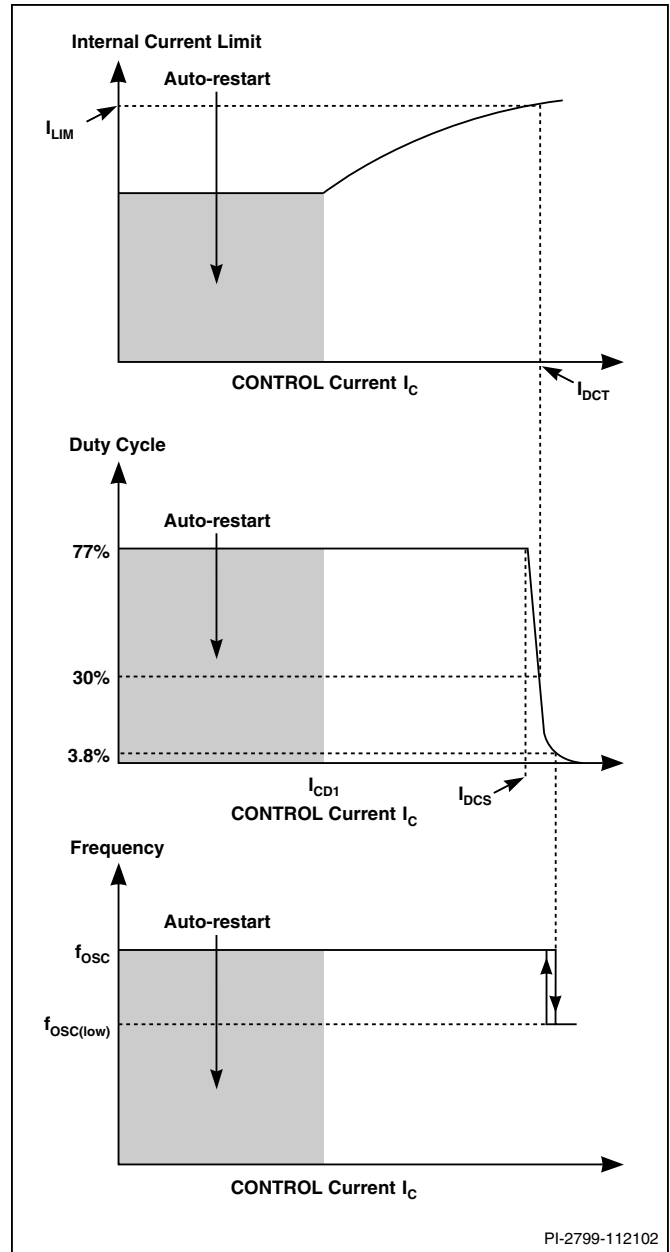
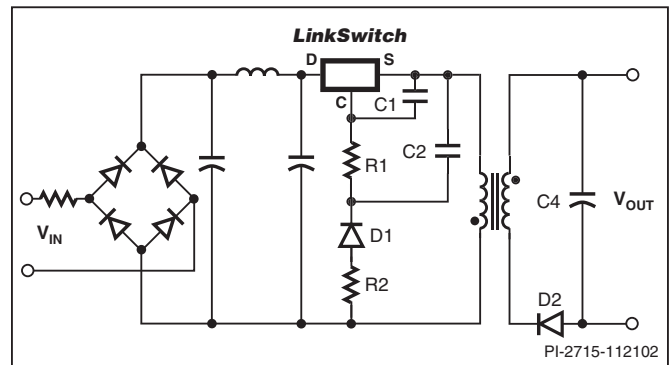
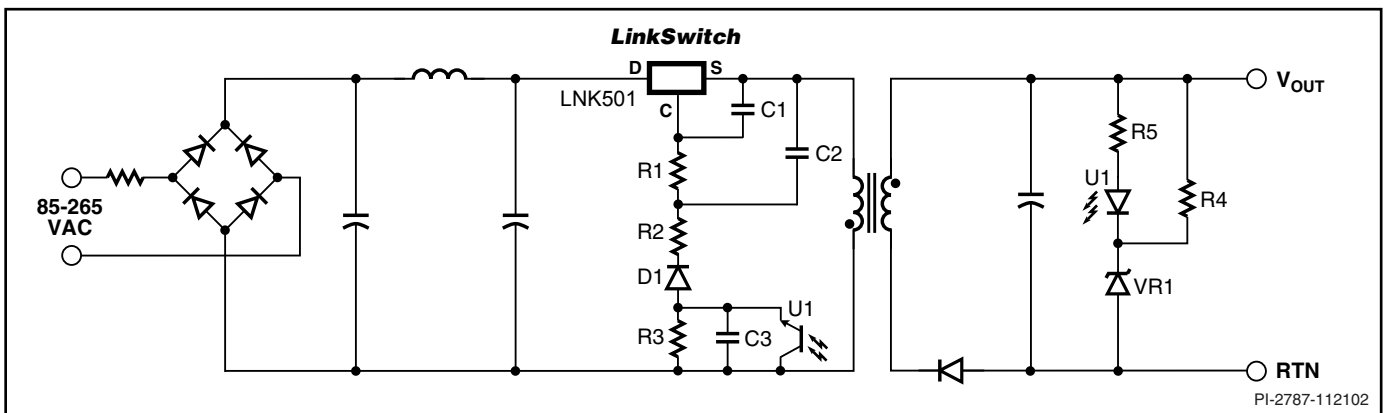

Figure 4. CONTROL Characteristics.
Figure 5. Power Supply Outline Schematic.
Figure 6. Power Supply Outline Schematic with Optocoupler Feedback.
The duty cycle, current limit and operating frequency relationships with CONTROL pin current are shown in Figure 4. Figure 5 shows a typical power supply outline schematic which is used below to describe the *LinkSwitch* operation.
During power up, as  $V_{IN}$  is first applied (Figure 5), the CONTROL pin capacitor C1 is charged through a switched high voltage current source connected internally between the DRAIN and CONTROL pins (see Figure 2). When the CONTROL pin voltage reaches approximately 5.6 V relative to the SOURCE pin, the high voltage current source is turned off, the internal control circuitry is activated and the high voltage internal MOSFET starts to switch. At this point, the charge stored on C1 is used to supply the internal consumption of the chip.
As the output voltage, and therefore the reflected voltage across the primary transformer winding ramp up, the feedback CONTROL current  $I_C$  increases. As shown in Figure 4, the internal current limit increases with  $I_C$  and reaches  $I_{LIM}$  when  $I_C$  is equal to  $I_{DCT}$ . The internal current limit vs.  $I_C$  characteristic is designed to provide an approximately constant power supply output current as the power supply output voltage rises.
When  $I_C$  exceeds  $I_{DCS}$ , typically 2 mA (Figure 4), the maximum duty cycle is reduced. At a value of  $I_C$  that depends on power supply input voltage, the duty cycle control limits *LinkSwitch* peak current below the internal current limit value. At this point the power supply transitions from CC to CV operation. With minimum input voltage in a typical universal input design, this transition occurs at approximately 30% duty cycle. Resistor R1 (Figure 5) is therefore initially selected to conduct a value of  $I_C$  approximately equal to  $I_{DCT}$  when  $V_{OUT}$  is at the desired value at the minimum power supply input voltage. The final choice of R1 is made when the rest of the circuit design is complete. When the duty cycle drops below approximately 4%, the frequency is reduced, which reduces energy consumption under light load conditions.
Figure 6 shows a typical power supply outline schematic using *LinkSwitch* with optocoupler feedback to improve output voltage regulation. On the primary side, the schematic differs
from Figure 5 by the addition of R3, C3 and optocoupler U1. Resistor R3 forms a potential divider with R1 to limit the U1 collector emitter voltage.
The feedback configuration in Figure 6 is simply a resistive divider made up of R1 and R3 with D1, R2, C1 and C2 rectifying, filtering and smoothing the primary winding voltage signal. The optocoupler therefore effectively adjusts the resistor divider ratio to control the DC voltage across R1 and therefore, the feedback current received by the *LinkSwitch* CONTROL pin.
When the power supply operates in the constant current (CC) region, for example when charging a battery, the output voltage is below the voltage feedback threshold defined by U1 and VR1 and the optocoupler is fully off. In this region, the circuit behaves exactly as previously described with reference to Figure 5 where the reflected voltage increases with increasing output voltage and the *LinkSwitch* internal current limit is adjusted to provide an approximate CC output characteristic. Note that for similar output characteristics in the CC region, the value of R1 in Figure 5 will be equal to the value of R1+R3 in Figure 6.
When the output reaches the voltage feedback threshold set by U1 and VR1, the optocoupler turns on. Any further increase in the power supply output voltage results in the U1 transistor current increasing, which increases the percentage of the reflected voltage appearing across R1. The resulting increase in the *LinkSwitch* CONTROL current reduces the duty cycle according to Figure 4 and therefore, maintains the output voltage regulation.
The extent to which R3 can be increased is limited by opto transistor voltage and dissipation ratings and should be fully tested before finalizing a design. The values of C2 and C3 are less important other than to make sure they are large enough to have very little influence on the impedance of the voltage division circuit set up by R1, R3 and U1 at the switching frequency. Normally, the values of C2 and C3 in Figure 6 are chosen equal to the value of C2 in Figure 5, though the voltage rating may be reduced depending on the relative values of R1 and R2 discussed above. See Applications section for typical values of components.
The output voltage load variation can be improved across the whole load range by adding an optocoupler and secondary reference (Figure 6). The secondary reference is designed to only provide feedback above the normal peak power point voltage to maintain the correct constant current characteristic.
The schematic shown in Figure 5 outlines the key components needed for a *LinkSwitch* supply.
Since the SOURCE pins in a *LinkSwitch* supply are switching nodes, the copper area connected to SOURCE together with C1, C2 and R1 (Figure 5) should be minimized, within the thermal constraints of the design, to reduce EMI coupling.